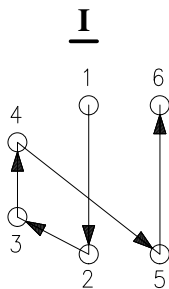

Fig. 3
- 3) Put the pre-tensioning jack (94320, Fig. 2) in position on the applicable elastic bolt (1, Fig. 3).
- 4) Apply tension to the elastic bolts (1) in the specified sequence shown and in accordance with the values given in 9403-4, Turning Gear..